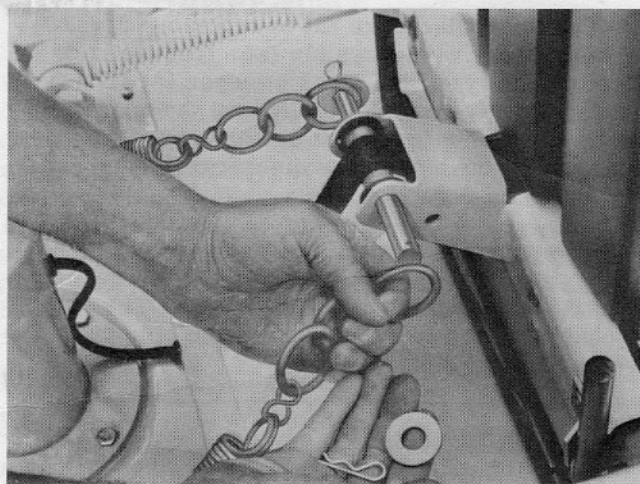

Figure 5
4. Lift the mower to its raised position and attach mower "helper" springs to either side of the front lift-guide axle using similar links on each chain extension. Secure with washers and hair pin cotters (See Figure 5). For normal conditions, the upper or center links should be used. If side hills are to be mowed, best results may be obtained using the lower links. This applies more of the mower weight to the front tractor wheels and permits better steering control.